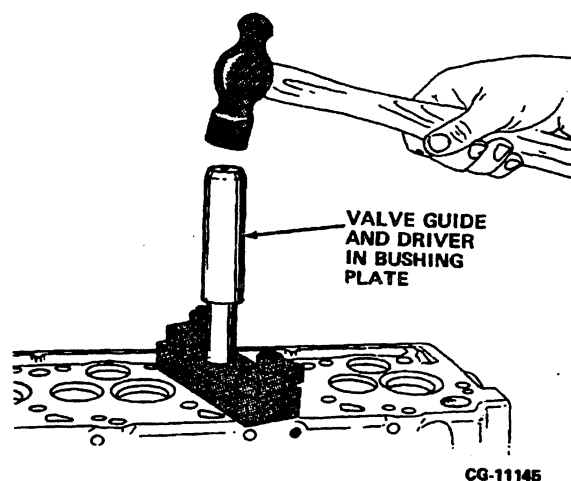

Figure 3.41. Installing Valve Guide Into Cylinder Head
18. Insert the valve guide through the bushing plate and drive the guide into the head until the driver stops on the bushing plate (Figure 3.41).